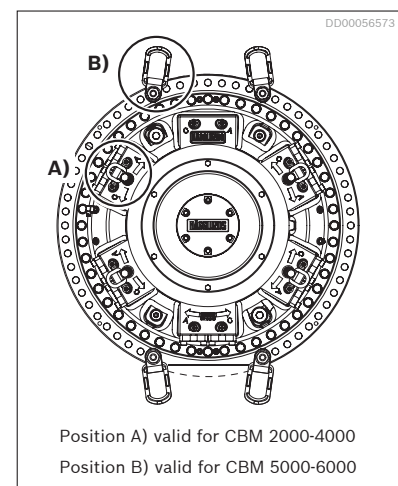

Fig. 5: Lifting eyes at motor
- ▶ Make sure the correct lifting eye is used, see Fig. 5: *Lifting eyes at motor*: and Table 5: *Tightening torque lifting eyes*.